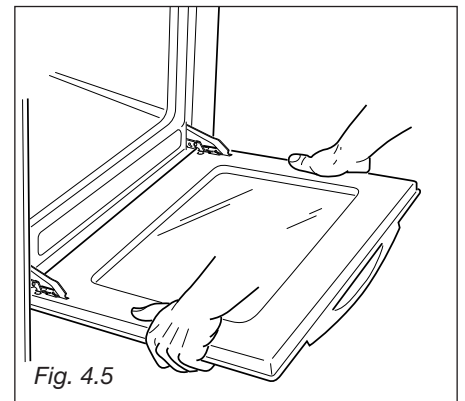
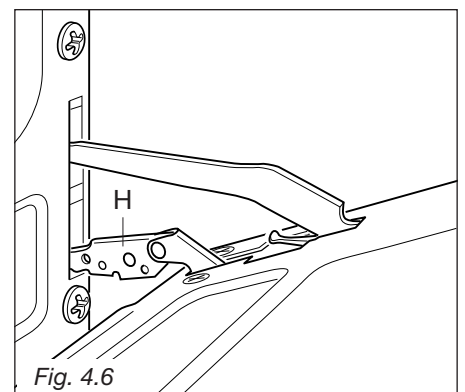

Fig. 4.5
Fig. 4.6
- Grip the door (as indicated in fig. 4.5) and, while closing it, release the two hinges as shown in fig. 4.6.
- Grip the door with your hands placed near the hinges and raise the levers "H" with your forefingers (fig. 4.6)